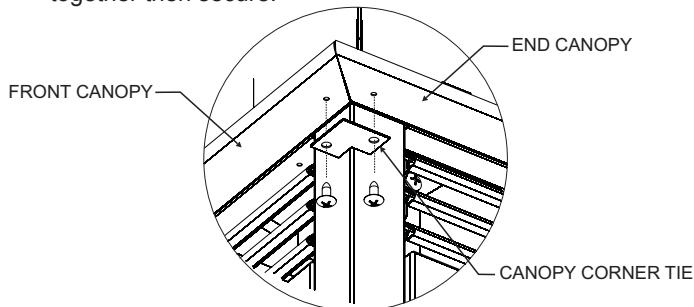

Figure 5a
Prior to installing the Peninsula mantel, install the 3-piece canopy and End Shield in conjunction with the (4) Mantel Corner Brackets (included with the Mantel Top) as shown in **Figure 5a**. Refer to the instructions included with the EMPT Mantel Top for additional installation details.
7. To finish canopy installation, install two (2) canopy corner tie brackets at the underside of the canopy corners as illustrated by **Figure 5a**. Use a Phillips screwdriver to install two (2) #8 x 1/2 black sheet metal screws to attach each corner bracket. Before tightening screws, align the canopy mitered corners together then secure.